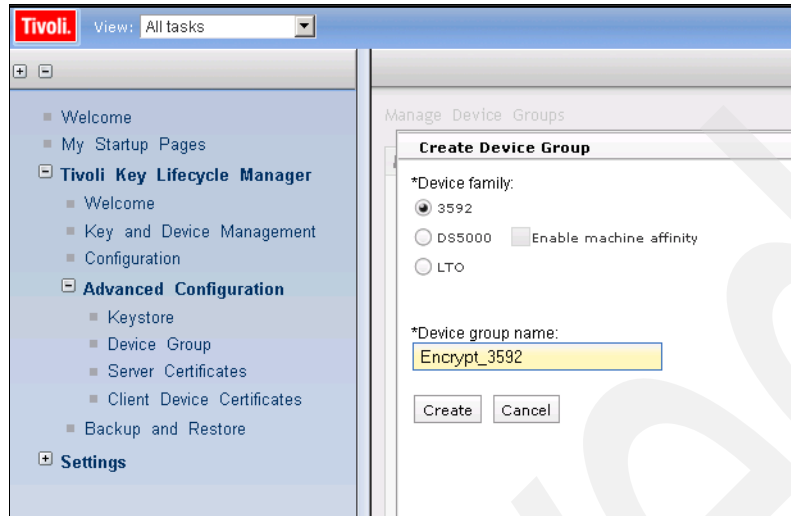

Figure 9-15 Create device group panel
- Click **Create** to access the **Create Device Group** panel. Enter a new name in the **Device group name** field and click **Create** (Figure 9-15).